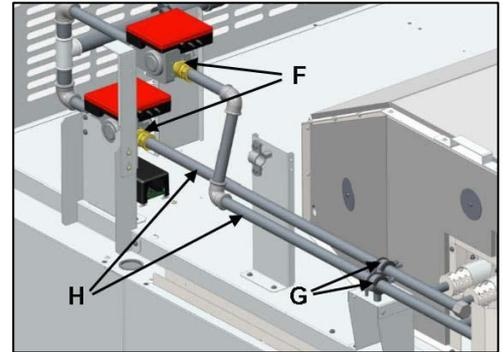

Fig. 5.8
- Loosen the nuts (**F**) and clamps (**G**) in order to then remove the gas ducts (**H**). (Fig. 5.8).